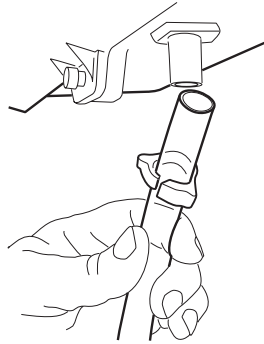

Fig. 8. Installing the drain tubing.
4. Connect a 1/2 in. (13 mm) drain tube to the humidifier drain fitting and run to the floor drain (see Fig. 8).